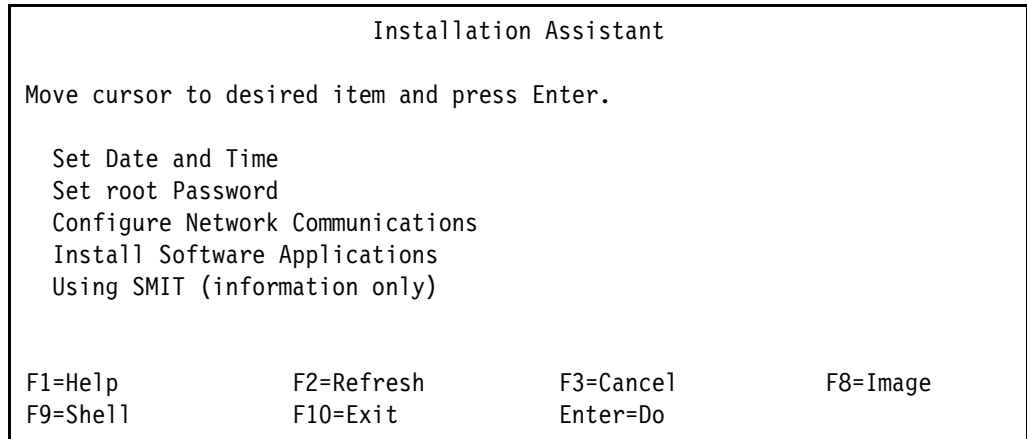

Figure 3-78 Post installation menu - Installation Assistant
- e. In the Installation Assistant main menu, select **Set Date and Time** as shown in Figure 3-78.